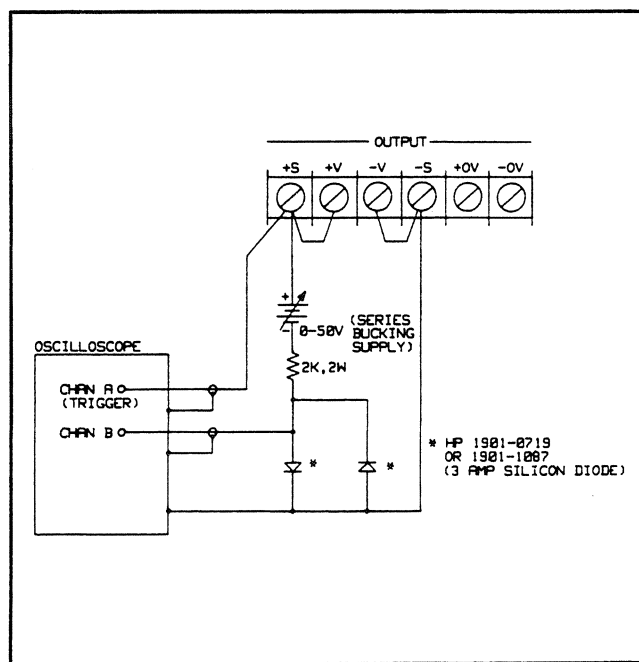

Figure 3-6. CV Up Programming Speed Test Setup
- Turn off the supply and connect the output to be tested as shown in Figure 3-6.
j. Now observe Channel B on the oscilloscope while maintaining the trigger on Channel A as in step h. Note the series supply bucks out the Full Scale Output Voltage and that the waveform is clamped at approximately -0.6 V and rises to the top horizontal line when the output voltage is at full scale. The diodes (see Figure 3-6) prevent gross overload of Channel B (which is set at 50 mV division) allowing examination of the "tail" of the exponential waveform. The output voltage should be within 20 mV of its final settling value on the top horizontal line is less than 2 msec. for 40WLV / 80WLV outputs and within 50 mV in less than 6 msec. for 40WHV/ 80WHV outputs.